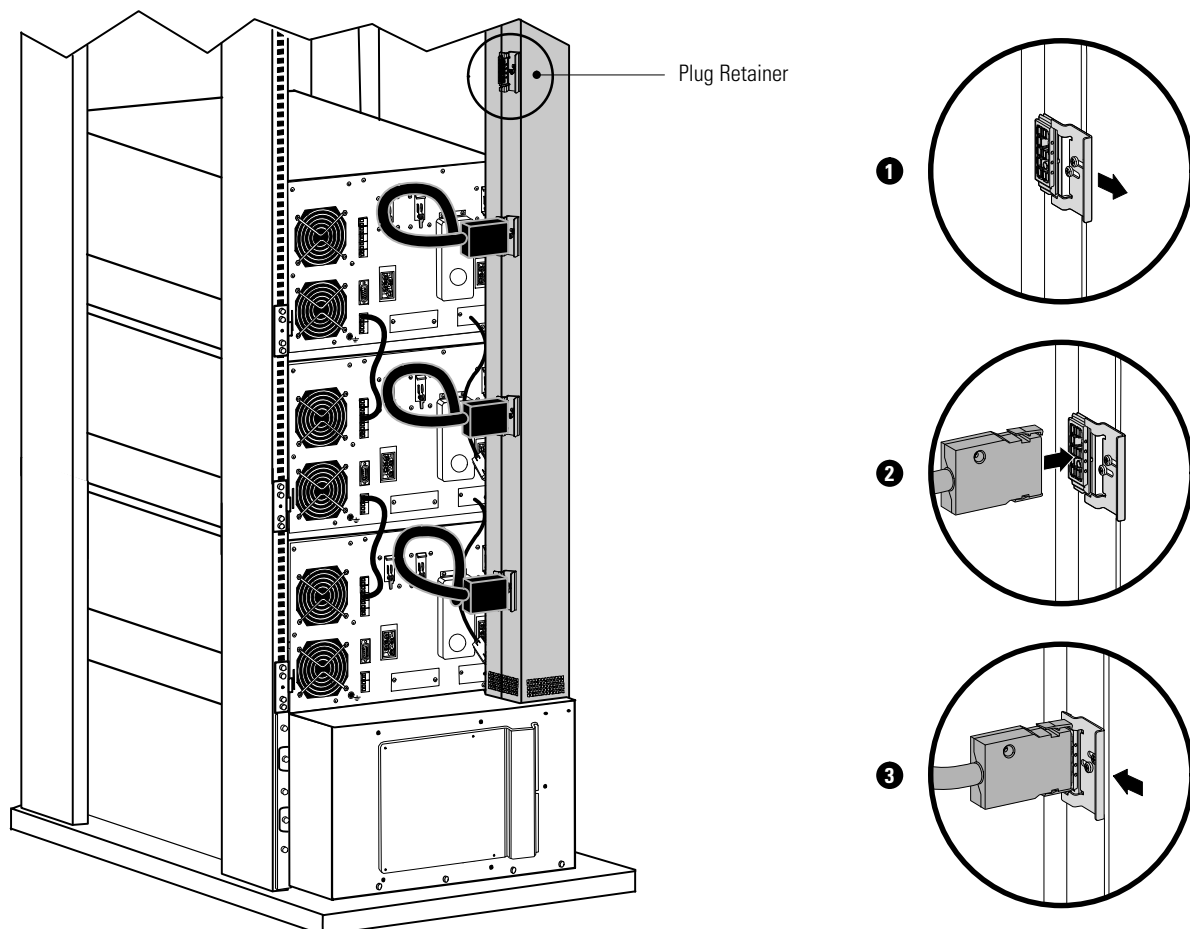

Figure 66. Connecting UPSs to the BladeUPS Bar (Bottom Entry Shown)
14. Connect the parallel input cord from each paralleled UPS, as shown in Figure 66: